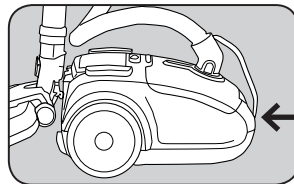

Fig. 2
2. Attach the electrical cord from the hose into the plug underneath the carry handle (FB-HMP model only) (Fig. 2).